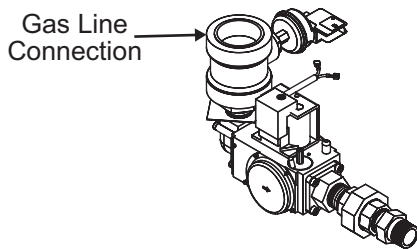

Figure 48
1. The water heaters covered by this manual are shipped from the factory with a 1 1/2" supply gas connection, see Table 1 on page 10. Connect the supply gas line to the water heater's 24 VAC Gas Valve in accordance with all applicable local and national code requirements, see Figure 48.